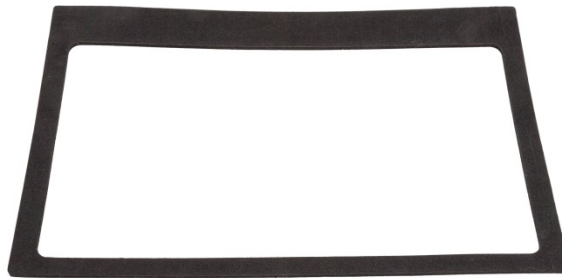

Figure 2-9: Front Panel Gasket
3. Locate the front panel mounting gasket (Figure 2-9) included with the terminal and remove the protective paper to expose the adhesive. Adhere the gasket to the rear of the front panel of the terminal, ensuring that the gasket is flat and spaced evenly on all sides.